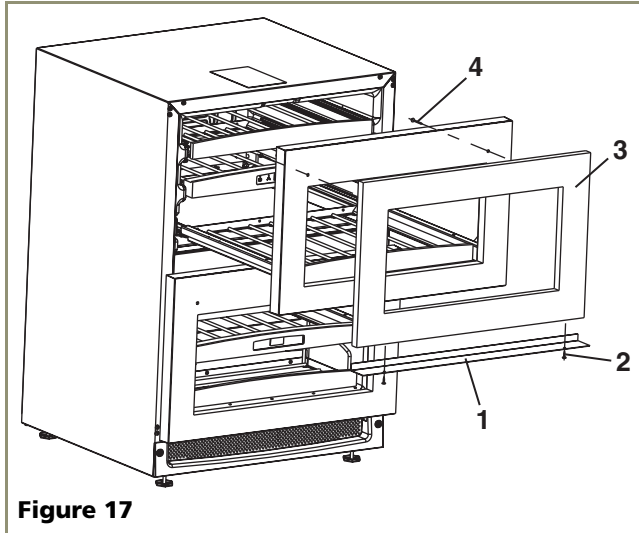

Figure 17
3. Place finished drawer overlay panel (**Figure 17, 3**) over front of drawer and using masking tape, tape to front of drawer, making sure to center overlay and making the top and bottom flush with drawer.
4. Place drawer overlay bracket (**Figure 17, 1**) on bottom of drawer making sure to catch the back of the drawer with the short lip on bracket.
9. Attach the bottom bracket to the wood using 2 of the 5/8" screws (**Figure 17, 2**) included with the unit.
11. Secure the top of the wood panel by placing 2 of the 1-1/2" wood screws (**Figure 17, 4**) through the top holes in the drawer, and tighten securely.